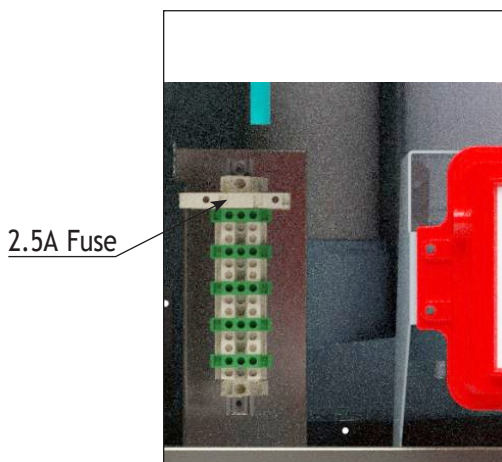

Fig. 32 - Terminal Strip Location
- A 2.5A fuse is also located on the terminal strip, to protect the output. Refer to *Fig. 32 on page 48*.
The low voltage terminals are located at the bottom of the CTRLMax control module. The line voltage terminals are located in the lower left corner as shown in Fig. 32 below.
1. Connect a dedicated 120 VAC/15A service to the line voltage terminals located internally in the lower left corner, as shown in Fig. 32 below.
2. Connect the CH circulator wiring to the line voltage terminals located internally in the lower left corner, as shown in Fig. 32 on the left. This circulator is typically used to supply heat to the central/space heating loop.
3. Connect the DHW circulator wiring to the line voltage terminals located internally in the lower left corner, as shown in Fig. 32 on the left. This circulator is typically used to supply heat to an indirect hot water heater.
4. Connect the system pump wiring to the line voltage terminals located internally in the lower left corner, as shown in Fig. 32 on the left.